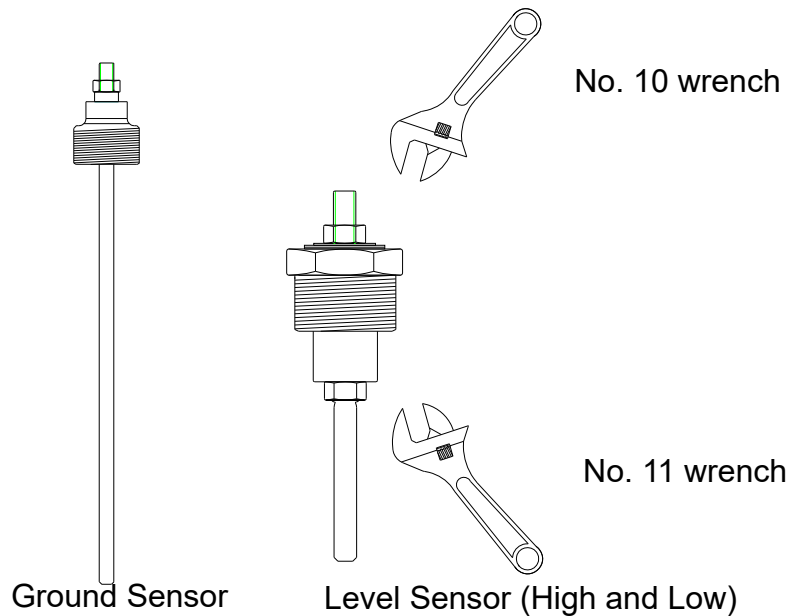
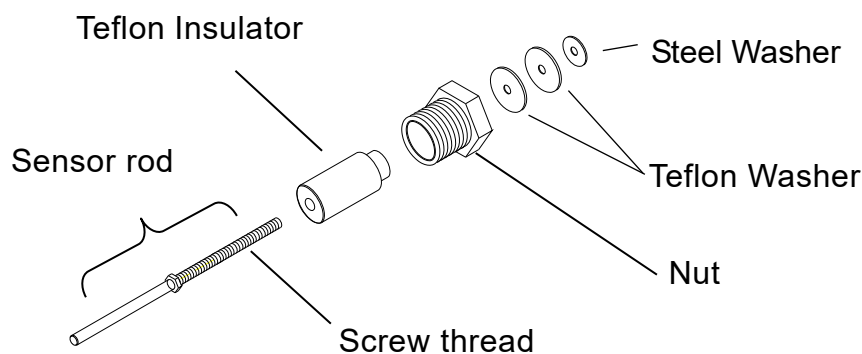
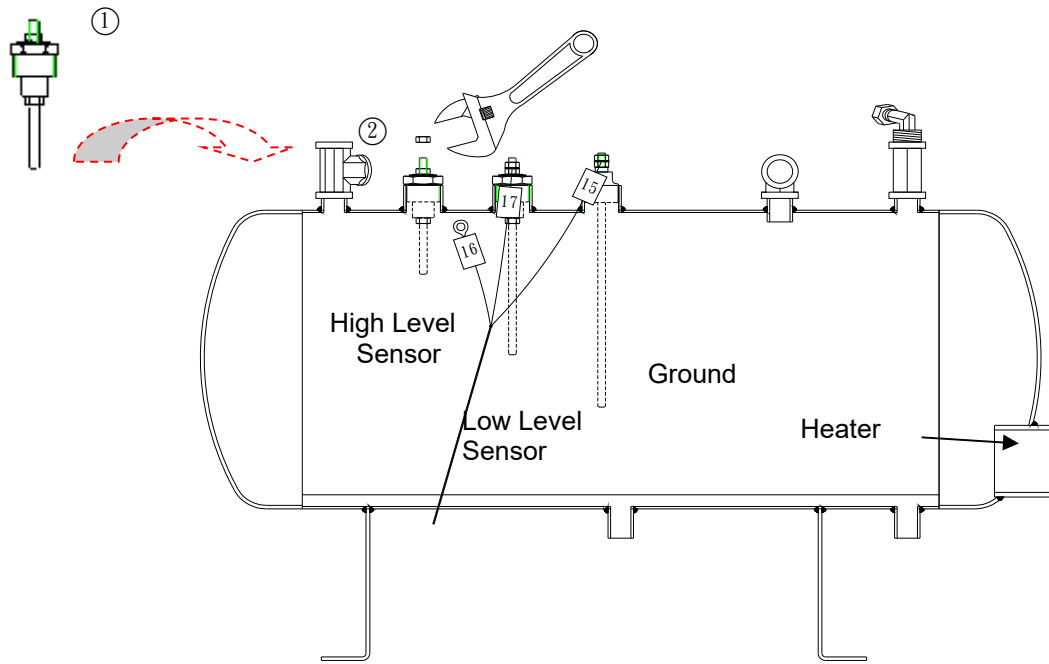

Figure 78
Figure 79
Figure 80
- D. Disassemble the High-Level-Sensor and Low-Level-Sensor as shown in Figure 78 and Figure 79.
- F. Dry all of the components after the cleaning work. Wrap the screw thread of the High-Level-Sensor and Low-Level-Sensor rods (Figure 79) with sealing tape so that they can be tighten with Teflon Insulators.
- G. Assemble the components as shown in Figure 79 and Figure 80.
- H. Install the three sensors and their associated wiring with the tools used in step 1. Visual inspect that the position and wiring identification are match to Figure 80.